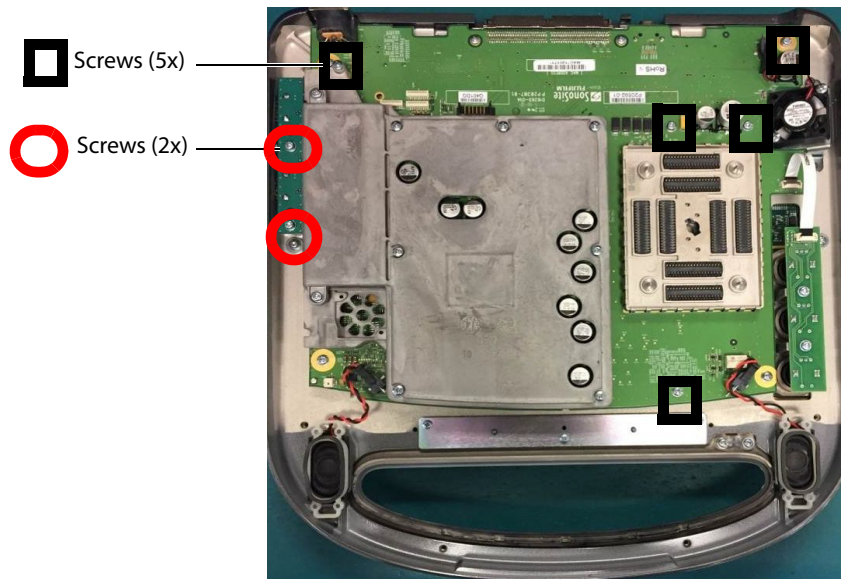

Figure 6.14 Main PCBA Screws
- 3 Remove the 5 screws holding the Main PCBA and the 2 screws holding the USB Extension PCB onto the SonoSite Edge II Base. Refer to Figure 6.14.